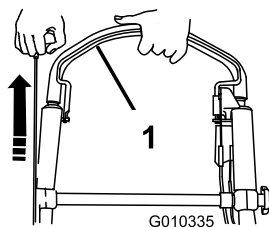

Figure 13
2. Hold the blade control bar against the handle and pull the recoil starter (Figure 13).